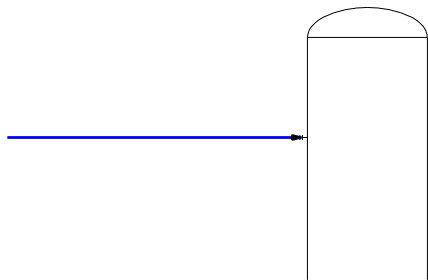

Figure 2-56 Line connected to the vessel
1. Invoke the **Primary Line Segment** tool and specify the start point as (4,13). Next, move the cursor horizontally toward right and specify the endpoint on the vessel; the line is created, as shown in Figure 2-56. Note that this line will be referred as feed line in this tutorial.